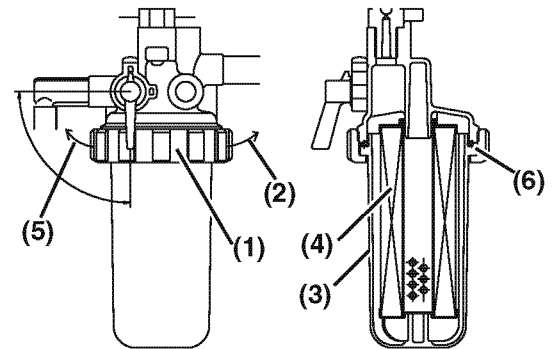

Figure 15
3. Turn the retaining ring (**Figure 15, (1)**) to the left (**Figure 15, (5)**).
4. Carefully remove the cup (**Figure 15, (3)**). Pour the fuel into an approved container and dispose of waste properly. Hold the bottom of the cup with a shop towel to prevent the fuel from dripping. Wipe up any spills immediately.
5. Remove the fuel filter (**Figure 15, (4)**) by pulling it down.
8. Check the condition of the O-ring (**Figure 15, (6)**). Replace if necessary.
9. Install the cup to the mounting flange and turn the retaining ring (**Figure 15, (1)**) to the right (**Figure 15, (2)**). Hand-tighten only.